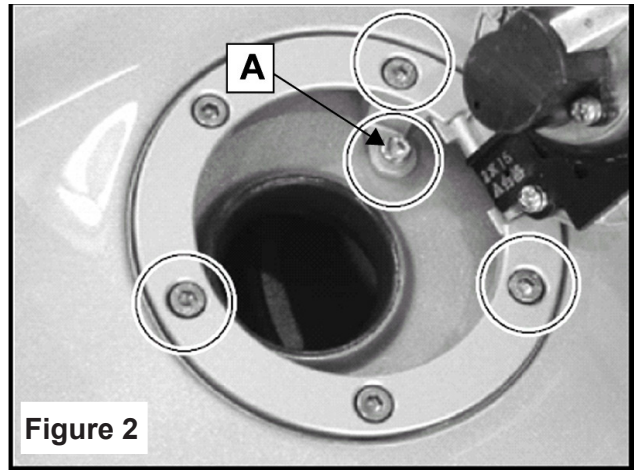

Figure 2
2. Open fuel cap. Remove M5x12 screw (A) and discard. Figure 2.